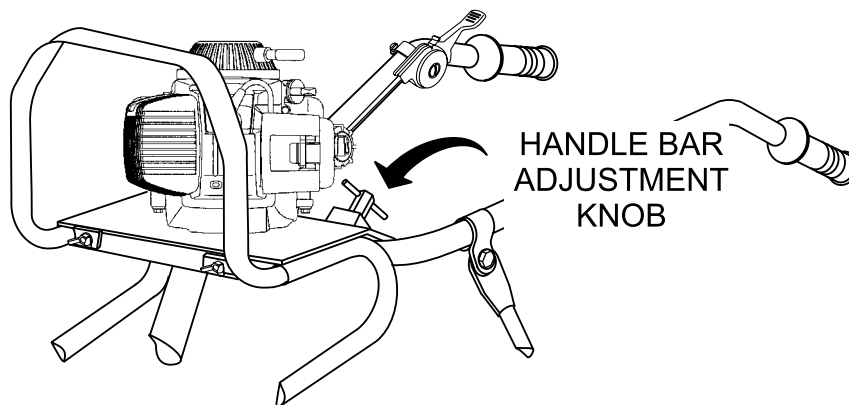

Figure 6. Handle Bar Adjustment Knob
9. Two handle bar adjustment knobs (Figure 6) are located at the base of the steering handle bar. Loosen these two knobs to adjust the height of the steering handle bar to a suitable working position.